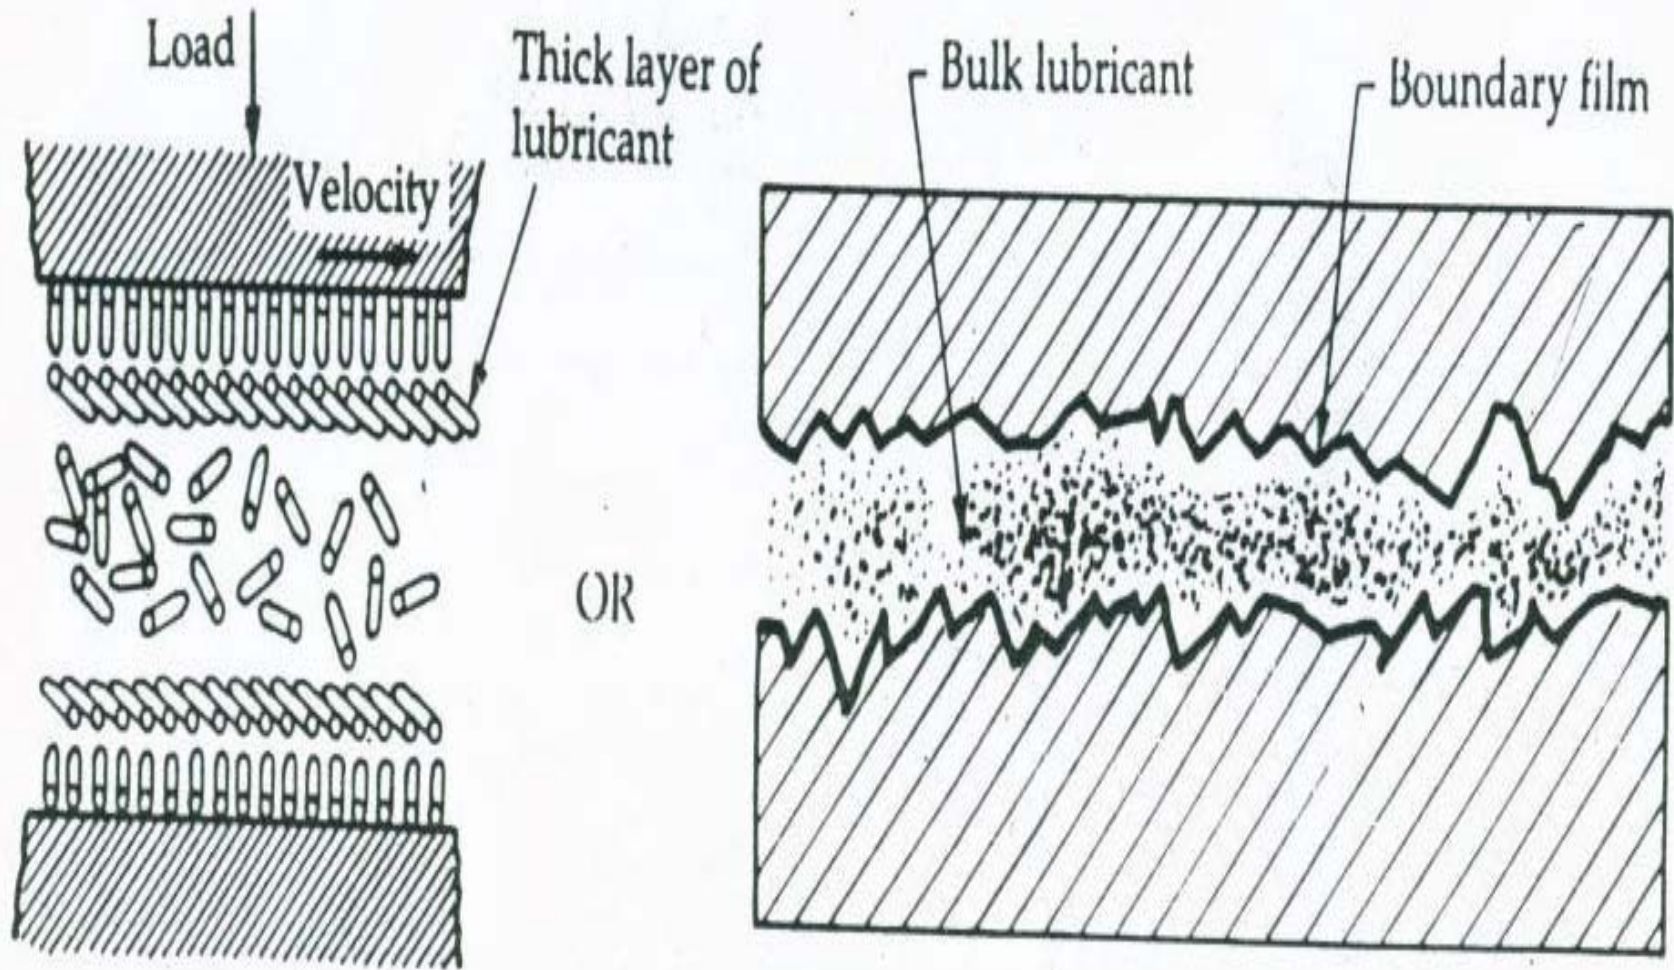

Fig 3.a Fluid film Lubrication – Surfaces separated by Bulk Lubricant film
shown in Fig. 3.
- Fig. 3(a) shows a journal resting on the bottom of the bearing before motion.
- Fig. 3 (b) shows the oil film which separates the surfaces when the journal rotates.